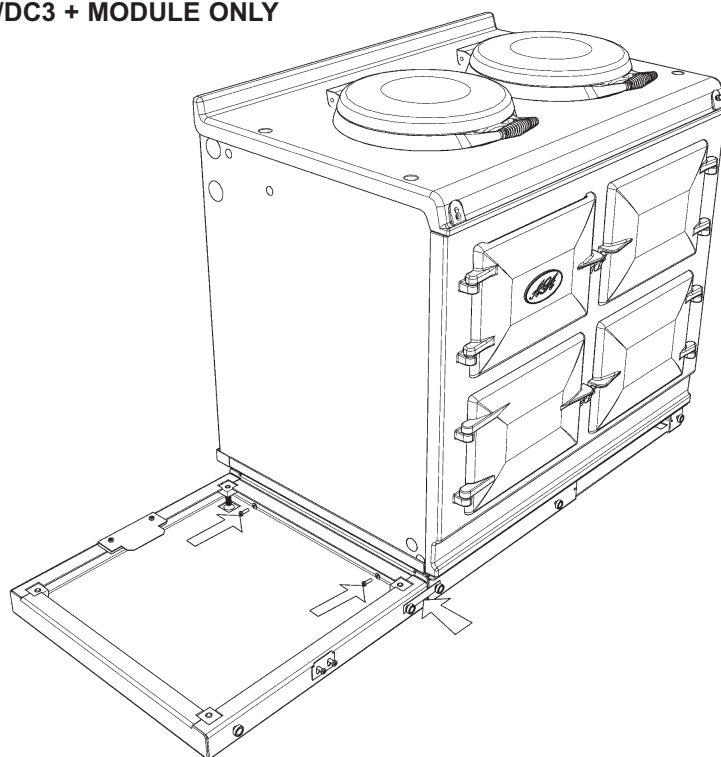

Fig. 8
6. Attach Module plinth to the AGA Total/Dual Control plinth using 2 M6 screws and washers provided (See Fig.8 or 8A). Slide front jointing bracket into place over two adjacent screws, locking the two appliances together.